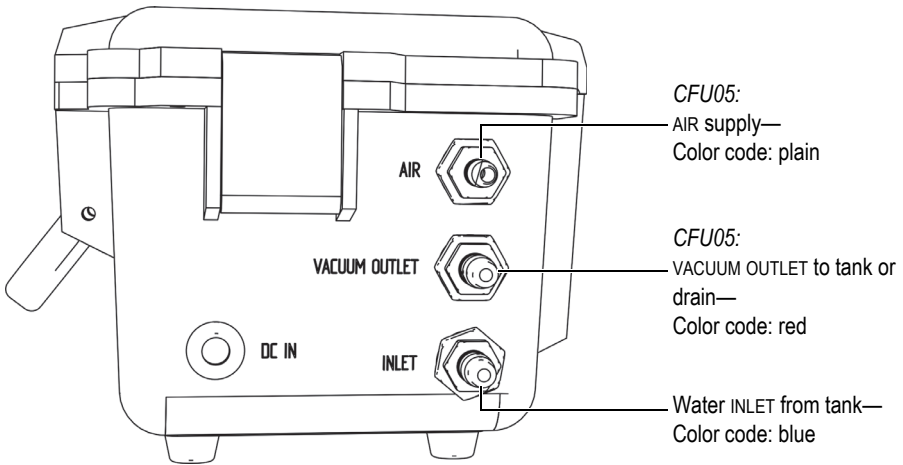

Figure 2-2 Color-coded connections with male connectors on pump
- The color-coded metallic quick-coupling connections with male connectors on the water pump. These connectors are shown on the CFU05 in Figure 2-2 on page 29, since all connectors of this type appear on that water pump.